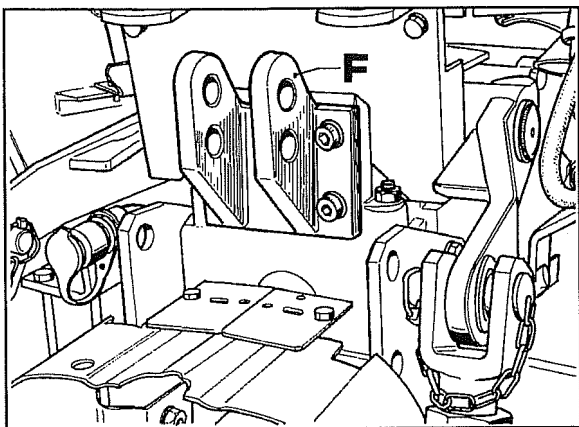

Fig. 7
- 3 To access this limit switch, remove the 3-point hitch **F** Fig.7.